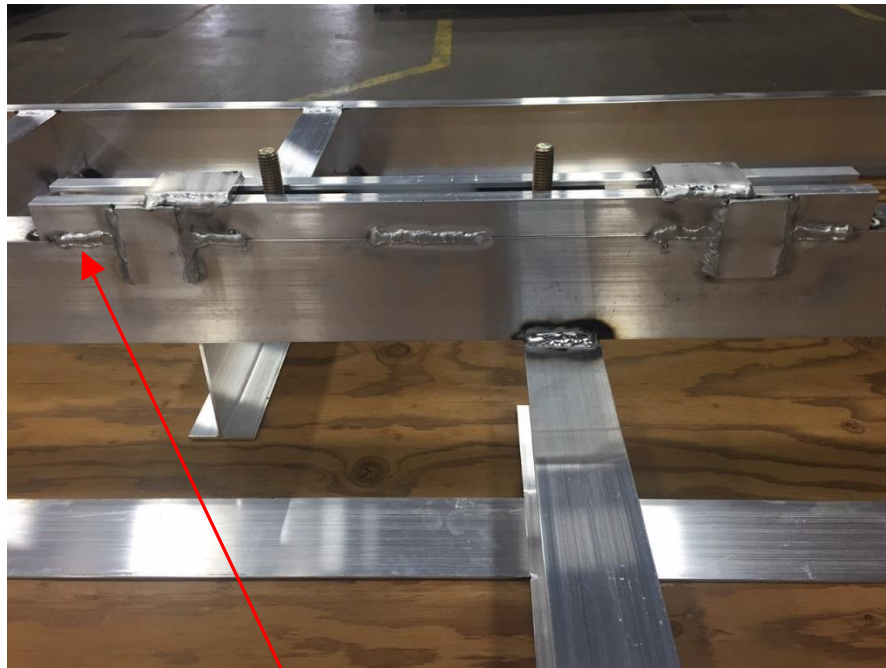

Figure 1
- 3.0 Inspect inside weld joint of axle mounts and U-channels for misalignment of weld or any cracks in welds. See Figure 1. If any defects are present proceed to inspecting axle mount outside welds and verify that there are no signs of base material damage. Repair all suspect welds using step 6. See Figures 3 and 4.
- 4.0 Add flat strap to inside of axle mount as shown in Figure 1 and 2. Depending on condition of welds found in steps 5 or 6.